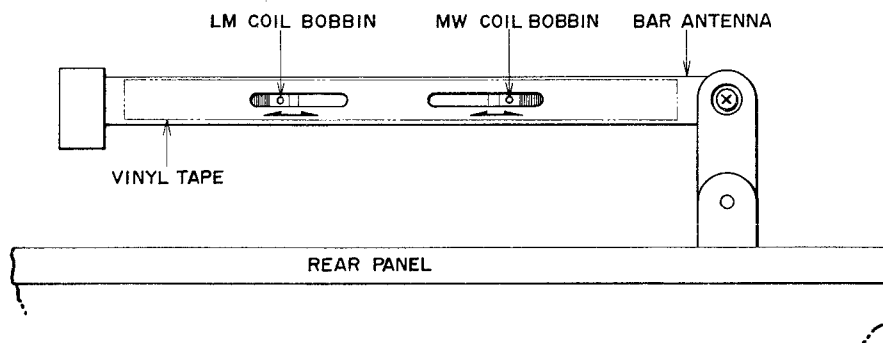

Fig. 29
- 4) Adjust bar antenna MW coil bobbin shown in Fig. 29 to left and right until the distortion meter level is maximum and the distortion factor is minimum (less than 10%).
- 4) Adjust bar antenna LW coil bobbin shown in Fig. 29 to left and right until the distortion meter level is maximum and the distortion factor is minimum (less than 10%).